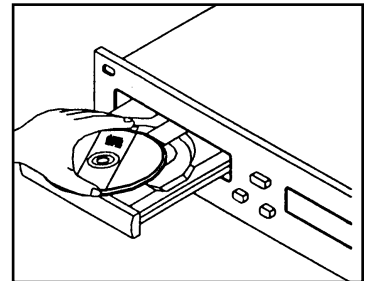
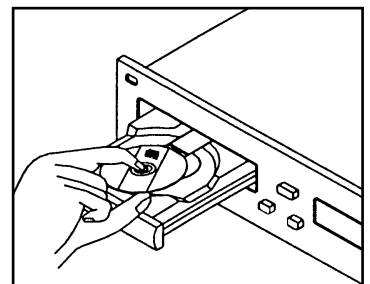

Fig. 15
Fig. 16
- When using 5 inch/12 cm discs, place the disc in the outer tray guides (Figure 15), and when using 3 inch/8 cm discs, place them securely in the inner guides (Figure 16).